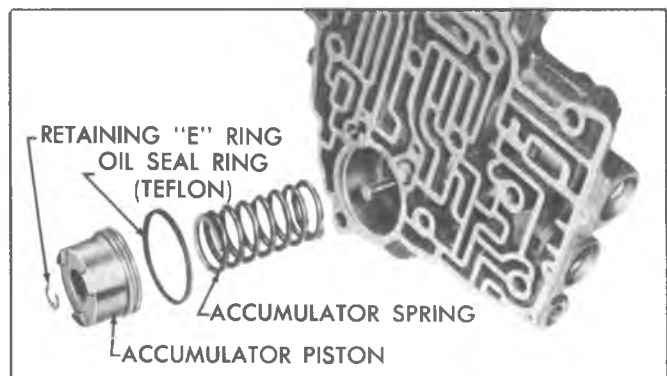

Fig. 54T—Front Accumulator Assembly - Exploded View
4. Remove front accumulator piston and spring (fig. 54T).
NOTE: See figure 54T. Do not remove the teflon oil seal ring from the front accumulator piston unless the oil seal ring requires replacement. For service, the oil seal ring is cast iron.